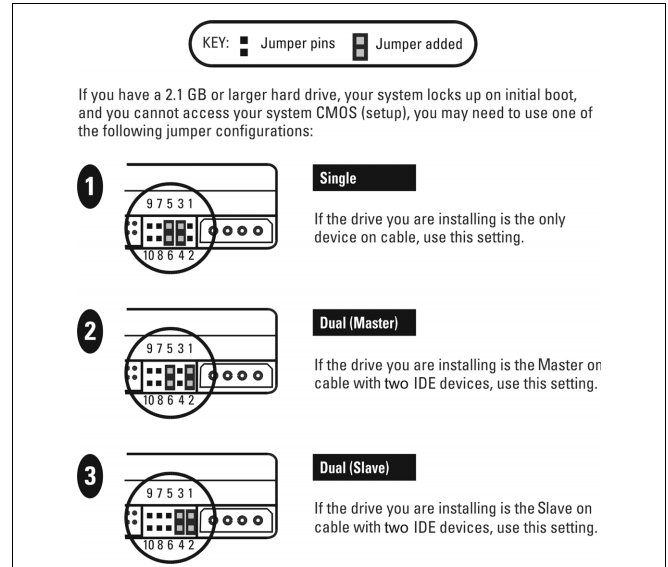

Figure 6. Alternate Jumper Settings for Hard Drives
CAUTION: Use the jumper settings in Figure 6 only if you encounter the specific BIOS limitation (system locks up) described in this section. These jumper settings cause the drive to report 4092 cylinders (2.1 GB) rather than the actual drive capacity. If you use these jumper settings, you **MUST** use Data Lifeguard Tools™ to partition and format your hard drive to access the full capacity of your new drive.
- **Rejumper the hard drive** as shown in Figure 6 and install Data Lifeguard Tools which **MUST** be used with these alternate jumper settings. If you move this hard drive to another system, you must replace the jumper in the standard position.